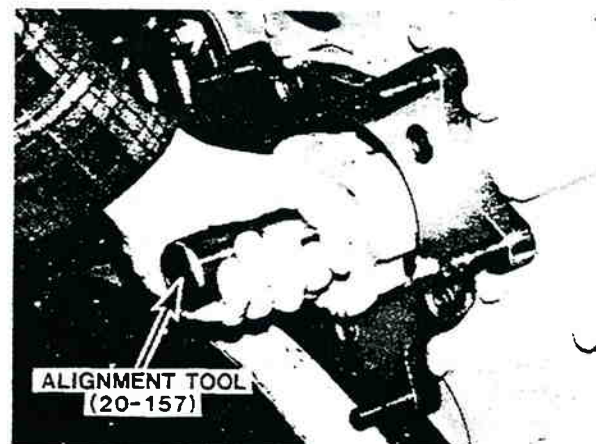

Figure 7-14. Aligning Adapter Plate.
2. Place tool 20-157 into center bore of camshaft to center adapter plate. See figure 7-14. Tighten the four 1/2" allen head capscrews to 78-80 lb. ft. (105-108 Nm) torque. Tighten the one 7/16" allen head capscrew to 55-60 lb. ft. (75-81 Nm) torque. Remove tool 20-157.